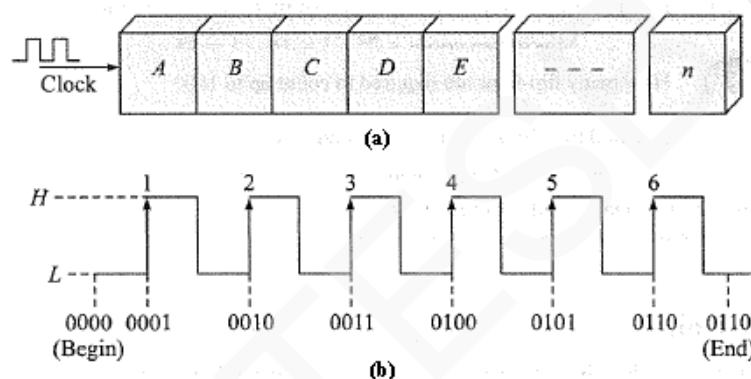

Figure 1.21: a) A counter constructed with 'n' flip flops for a count of 6
- to count number of clock cycles (Figure 1.21).
- Each time the clock signal changes state from low to high ($0 \rightarrow 1$), the counter will add one (1) to the number stored in its flip-flops. In other words, the counter will count the number of clock-transitions from low to high.
- Since the clock-pulses occur at known intervals, the counter can also be used as an instrument for measuring time and therefore period(T) or frequency(f).